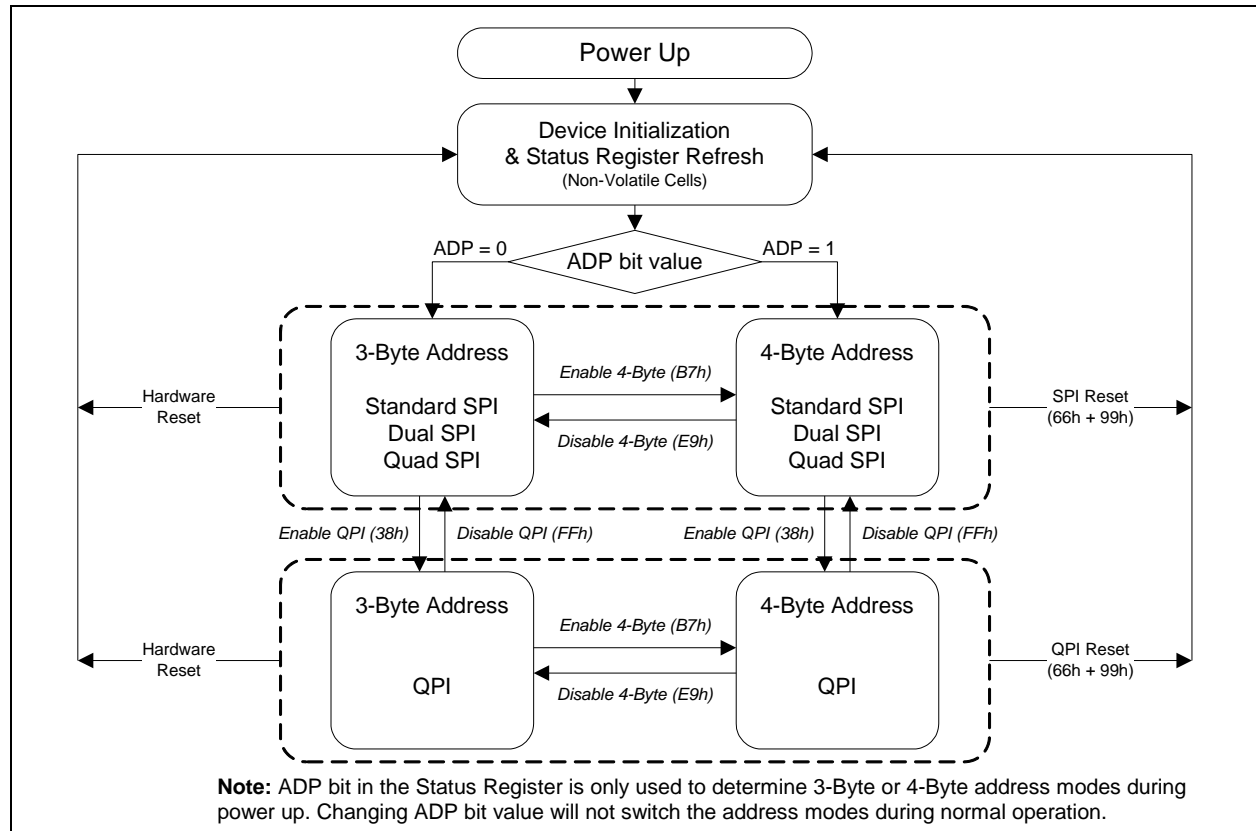

Figure 3. W25Q02JV Serial Flash Memory Operation Diagram
The W25Q02JV supports Quad Peripheral Interface (QPI) operations only when the device is switched from Standard/Dual/Quad SPI mode to QPI mode using the “Enter QPI (38h)” instruction. The typical SPI protocol requires that the byte-long instruction code being shifted into the device only via DI pin in eight serial clocks. The QPI mode utilizes all four IO pins to input the instruction code, thus only two serial clocks are required. This can significantly reduce the SPI instruction overhead and improve system performance in an XIP environment. Standard/Dual/Quad SPI mode and QPI mode are exclusive. Only one mode can be active at any given time. “Enter QPI (38h)” and “Exit QPI (FFh)” instructions are used to switch between these two modes. Upon power-up or after a software reset using “Reset (99h)” instruction, the default state of the device is Standard/Dual/Quad SPI mode. To enable QPI mode, the non-volatile Quad Enable bit (QE) in Status Register-2 is required to be set. When using QPI instructions, the DI and DO pins become bidirectional IO0 and IO1, and the /WP and /HOLD pins become IO2 and IO3 respectively. See Figure 3 for the device operation modes.